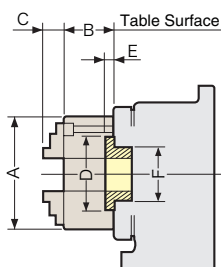

Fig.1
- Scroll Chucks with chuck plate marked* are NIKKEN Scroll Chuck of Front Mounting (Fig.1)